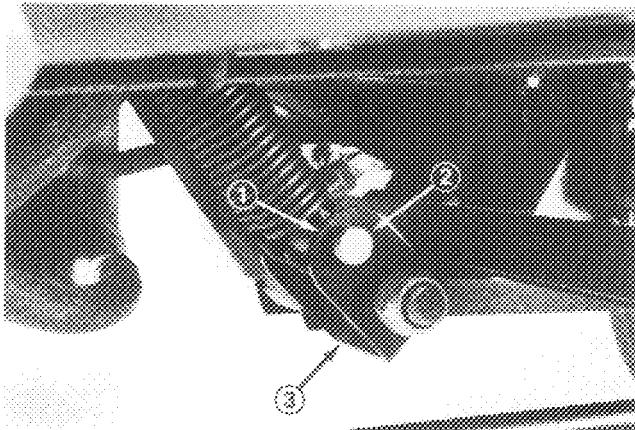

Figure 25
5. Check distance between clevis pin and bottom hooks of springs (Fig. 25). Distance should be 1/4 inch or less.